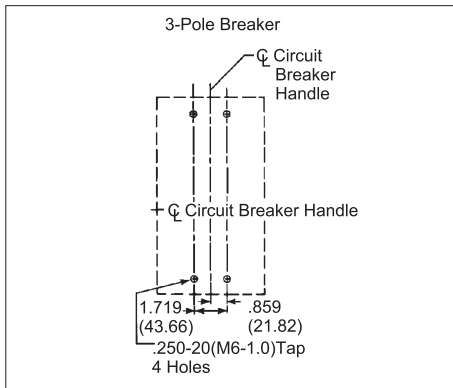
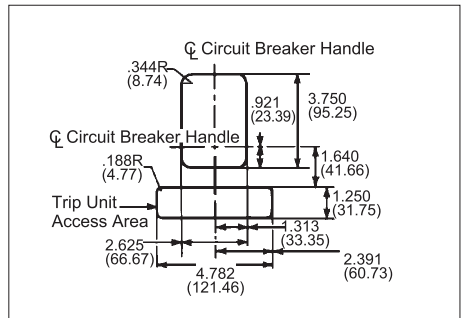

Figure 10. Circuit Breaker Mounting Bolt Drilling.
Figure 11. Circuit Breaker Escutcheon Dimensions for 3-Pole Circuit Breakers.
- a. For individual surface mounting, drill mounting panel using the drilling plan shown in Fig. 10. For panelboard mounting, only load end support mounting holes are required. For dead front cover applications, cut out cover to correct escutcheon dimensions, see Fig. 11.